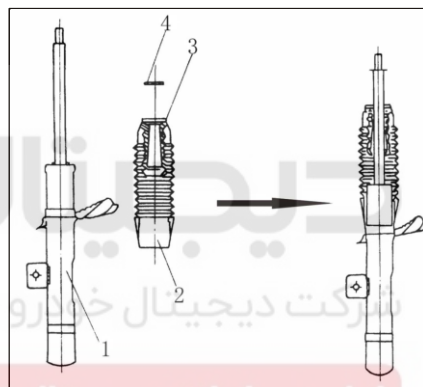

Figure 4-17 Install Parts of Protective Sleeve
- (1) Clean all components.
- (2) Fix the lower bracket of spring onto the damper cylinder, as shown in Figure 4-17.
- (3) Separately install protective tube 2, buffer block 3 and plain washer 4 on damper 1, as shown in Figure 4-17.